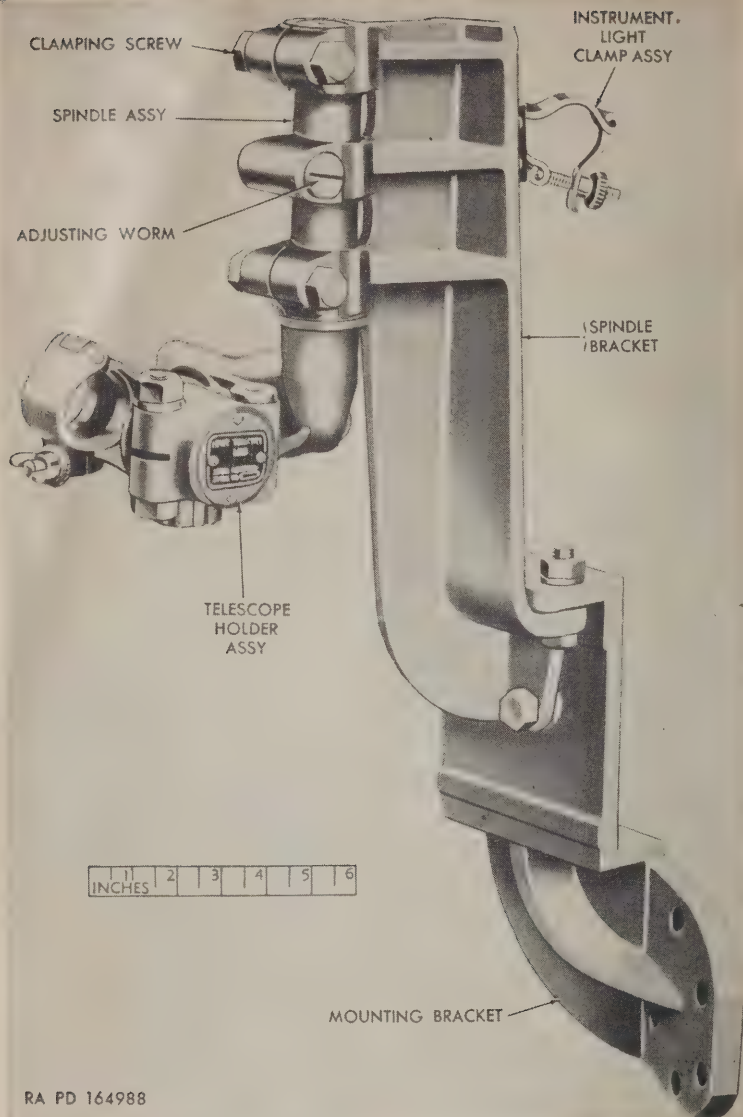

Figure 6. Telescope mount M28.
- (2) The telescope mount M28 (fig. 6) is similar to the M23, except that, the M28 has a mounting bracket of its own, by which it is mounted in the on-carriage position.